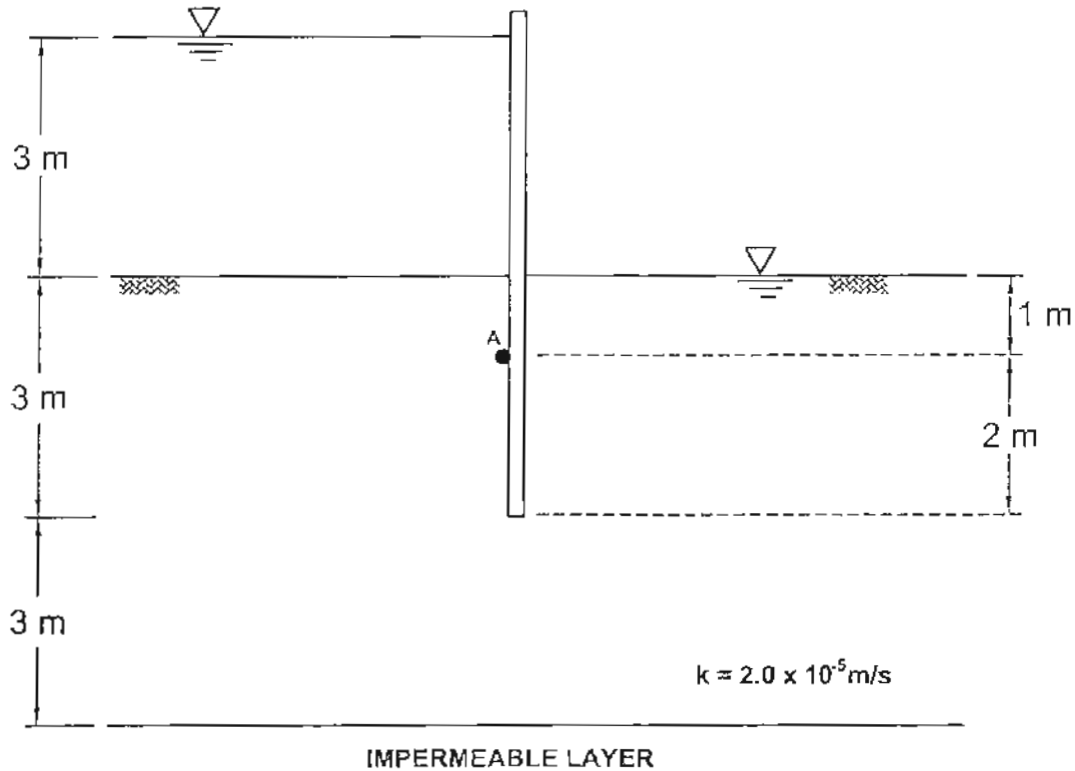

Figure 4
For a cutoff wall shown in Figure 4
- a. Establish the **flow nets** (i.e. flow and equipotential lines) following all the rules (draw on Figure 4). (10 marks)